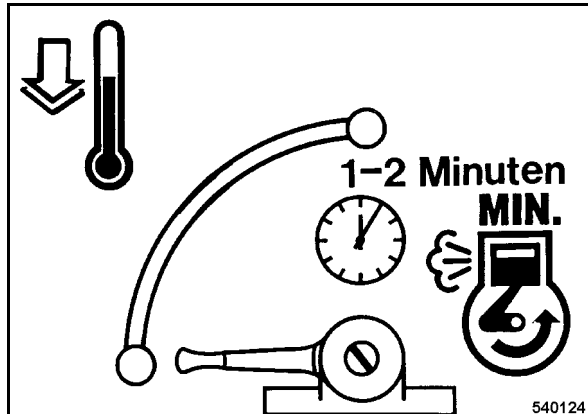

Fig. 23
- Move the throttle lever (Fig. 23) back to idle speed position.